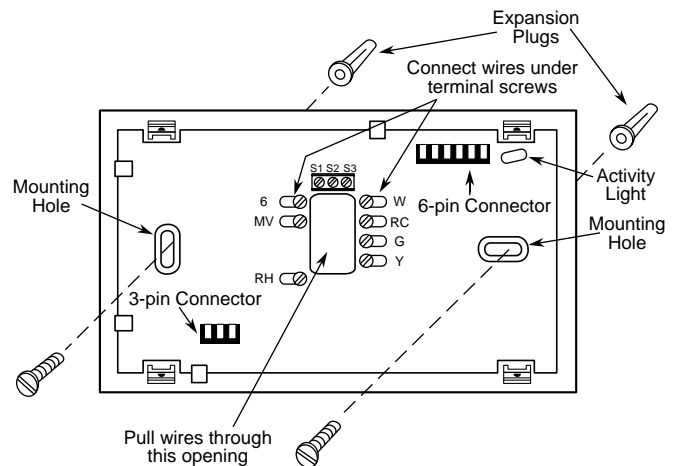

Figure 3. Subbase
3. Connect wires beneath terminal screws on subbase using appropriate wiring schematic (see Figs. 3 through 11).
6. Fasten subbase loosely to wall, as shown in Fig. 3, using two mounting screws. Place a level against bottom of subbase, adjust until level, and then tighten screws. (Leveling is for appearance only and will not affect thermostat operation.) If you are using existing mounting holes, or if holes drilled are too large and do not allow you to tighten subbase snugly, use plastic expansion plugs to secure subbase.